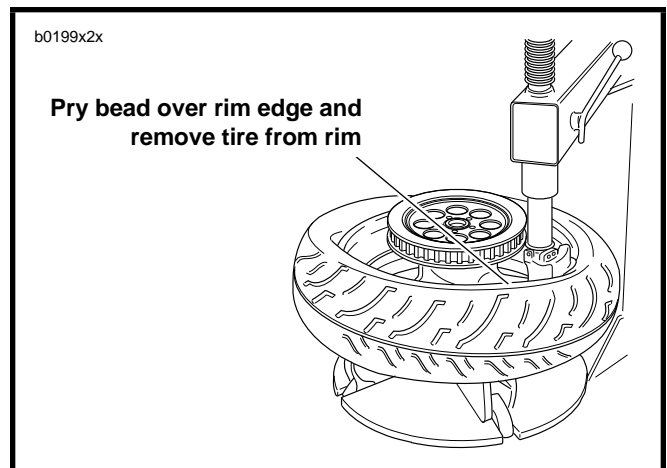

Figure 2-14. Starting Tire Off Rim
5. See Figure 2-14. Push lower bead into rim well on one side and insert tire tool underneath bead from opposite side. Pry bead over rim edge. Remove tire from rim.